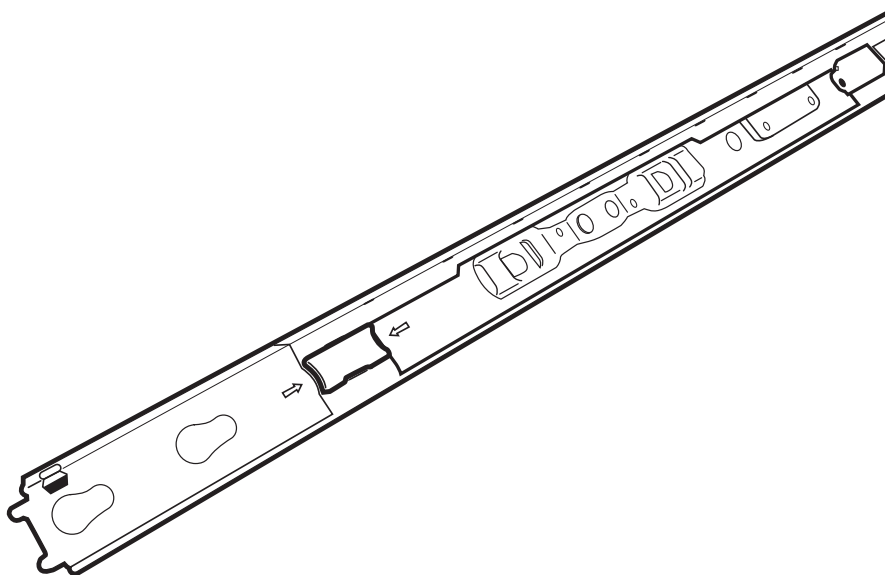

Figure 2.4 Detailed View of the Slider Rail Release Mechanism
3. Extend both sliding rails. See figure 2.4 on page 14.